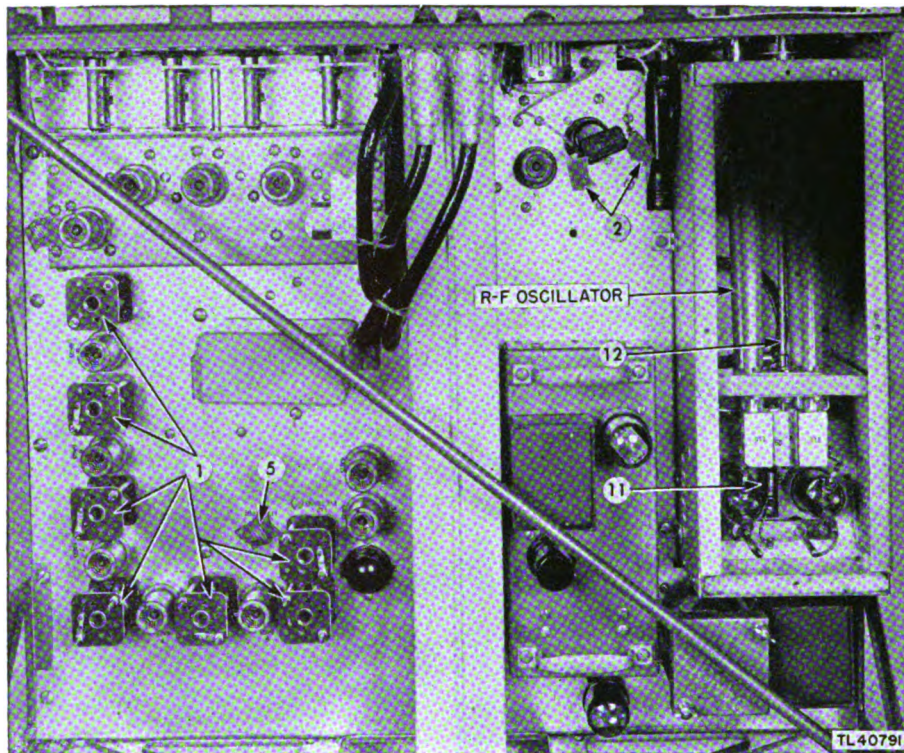

Figure 53. Receiver and Transmitter BC-1267-A—top view showing masked parts.
*e. STEP-BY-STEP INSTRUCTIONS FOR RADIO RECEIVER AND TRANSMITTER BC-1267-A.* (1) *Disassembly* (figs. 53 and 54).